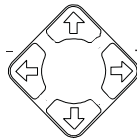

Figure 25: Navigation Control Keys
- Using the navigation control keys on the infra-red remote control transmitter (see Figure 49), to fine tune the zoom position (that is, to slowly zoom-in at any location on the screen)2, as Figure 25 illustrates